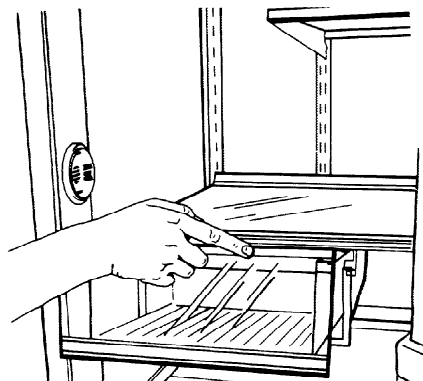

FIGURE 46
1. Pull the drawer three quarters of the way out. See Figure 46.